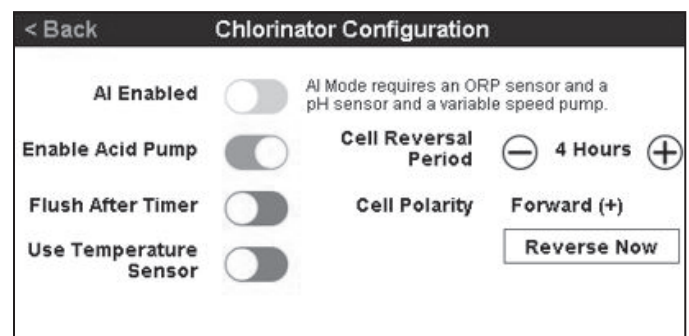

Figure 10. Halo Chlorinator Configuration Screen
3. Move the "Enable Acid Pump" switch to the right as shown in *Figure 10* to enable dosing. Press the "Back" button twice to return to the main chlorinator screen.